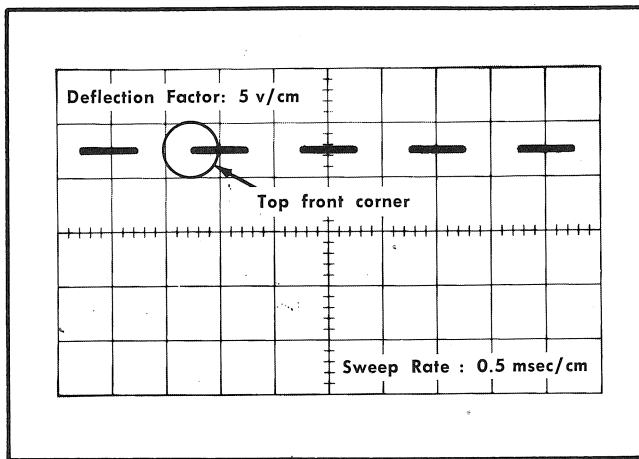

Fig. 5-18. C109C adjusted for best top front corner.
- Check the display. It should appear similar to Fig. 5-18. If it does not, adjust C109C (see Fig. 5-17d) for best top front corner on the waveform; that is, there should be no fast-rise spike or rolloff on the front corner of the square wave.
- c. Check the display. It should appear similar to the display shown in Fig. 5-18. There should be no peak or roll-off on the top front corner. If there is, adjust shunt capacitor C109A (see Fig. 5-19b) in the +input 1000X attenuator for best top front corner.